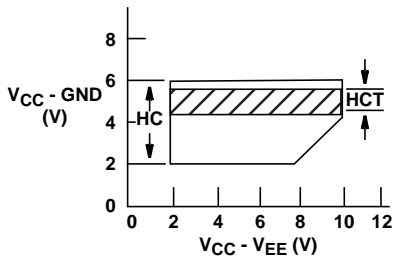

FIGURE 2.
In addition these devices contain logic-level translation circuits that provide for analog signal switching of voltages between $\pm 5V$ via 5V logic. Each switch is turned on by a high-level voltage on its select input (S) when the common Enable (E) is Low. A High E disables all switches. The digital inputs can swing between V_{CC} and GND; the analog inputs/outputs can swing between V_{CC} as a positive limit and V_{EE} as a negative limit. Voltage ranges are shown in Figures 2 and 3.
Supply Voltage Range, $V_{CC} - V_{EE}$ HC, HCT Types (Figure 2)2V to 10V